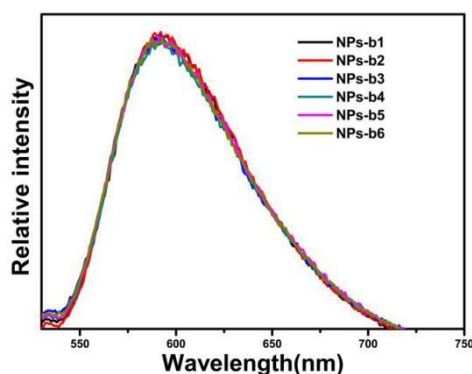

Figure S6. The emission spectra of dye doped silica nanoparticles with different solvent ratio and identical dye concentration.
10. Figure S6 shows the emission spectra of dye doped silica nanoparticles with